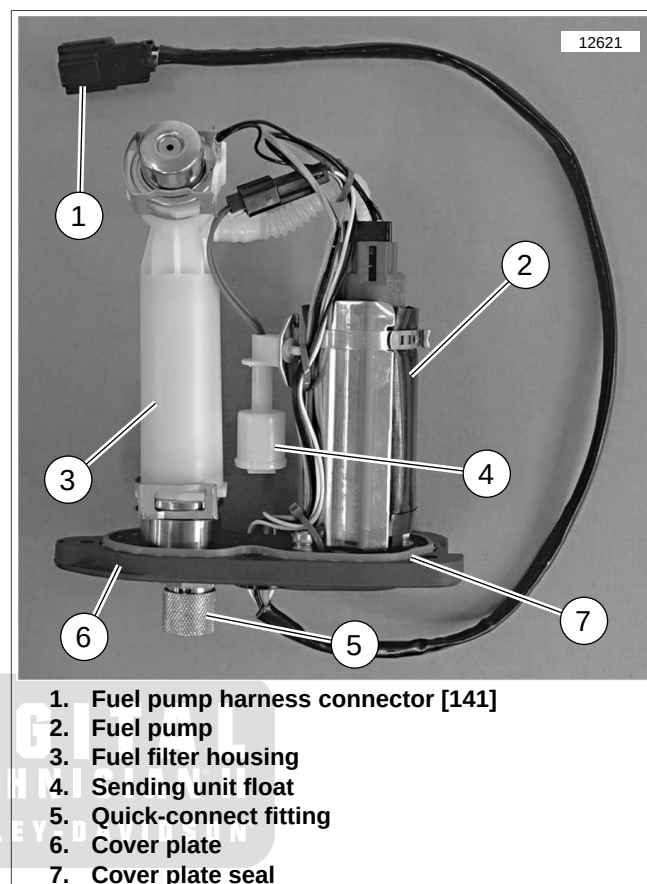

Figure 4-78. Fuel Pump Module
3. See Figure 4-78. Unplug fuel pump harness connector [141] (1), located forward of fuse/relay block on left side of vehicle.
9. See Figure 4-78. Remove and discard cover plate seal (7).